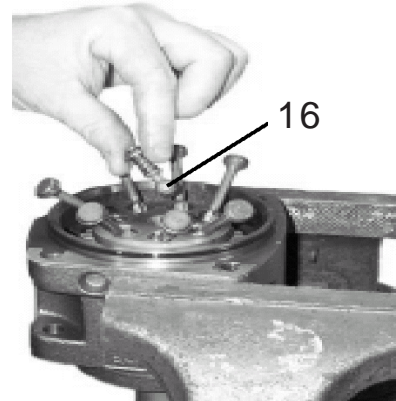

Figure 5
4. Lift Out Barrel Support . Lift the barrel support out (item 16), make certain that all the parts in barrel support are accounted for. (See Figure 5)